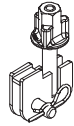

Fig. B1.07
6. Mount push-pull props, see Fig. B1.07 + B1.08.
(Fig. B1.07)